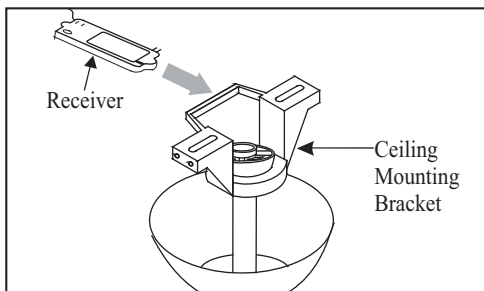

Figure 13
1. Insert the receiver into the mounting bracket with the flat side of the receiver facing the ceiling as Figure 13.